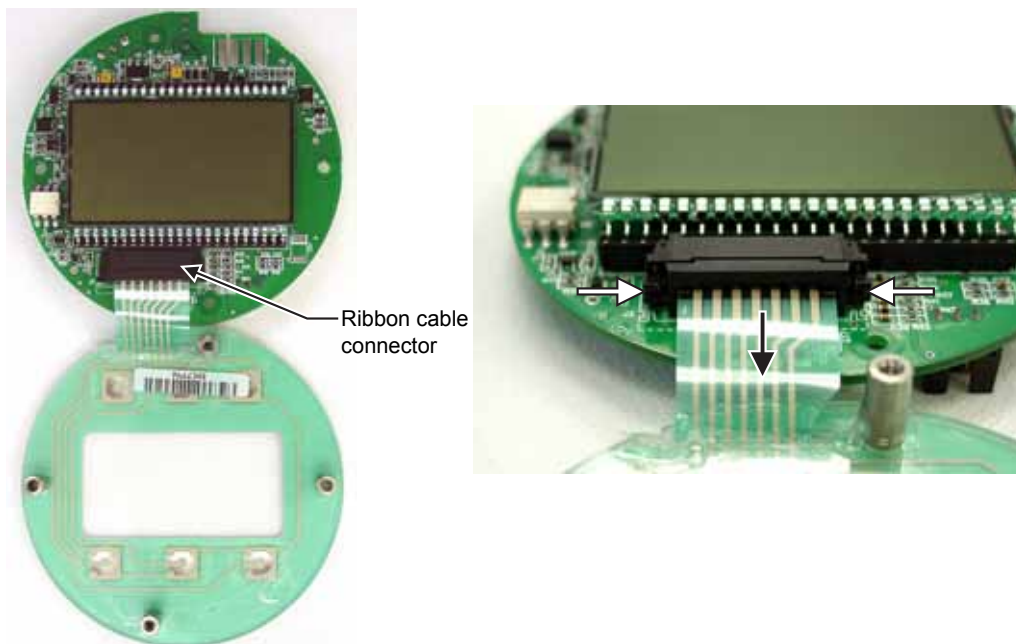

Figure C.14—To release the ribbon cable from the connector, press in on the side tabs of the J7 connector (white arrows) and gently pull forward (black arrow).
13. Remove the keypad ribbon cable from the J7 connector on the LCD side of the main board by pressing in on the sides of the black plastic clip and pulling gently on the clip. Do not pull on the ribbon cable; the cable will release freely when the clip opens (Figure C.14, page C-20).